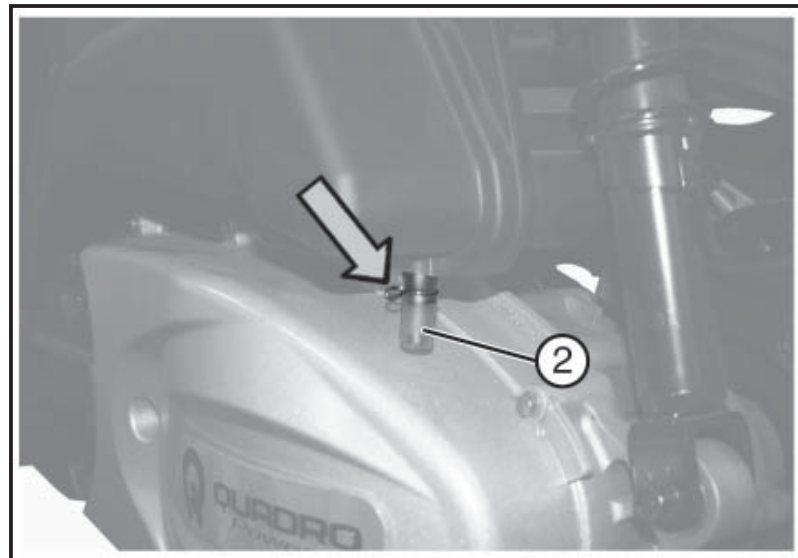

Fig. 02
6.7 DRAINING EVAPORATED OIL (Fig. 02)